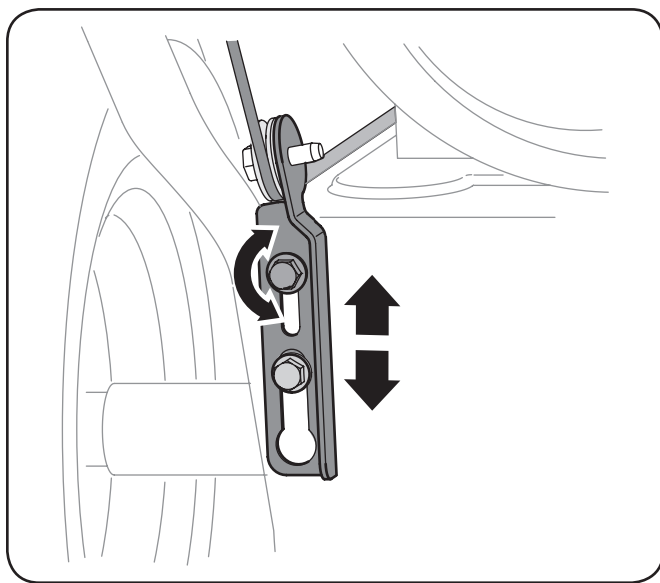

Figure 3-10
4. Allow the auger to remain engaged for approximately ten (10) seconds before releasing the auger control. Repeat this several times.
7. To readjust the control cable, loosen the upper hex screw on the auger cable bracket. See Fig. 3-10.